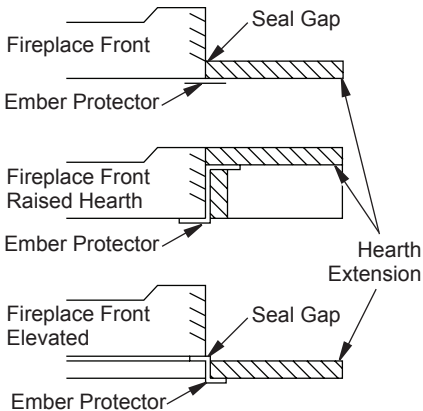

Figure 3 - Hearth Extension
Thermal conductivity "K" of materials can be obtained from the manufacturer or supplier of the noncombustible material. If the hearth extension is to be covered, use noncombustible material such as tile, slate, brick, concrete, metal, glass, marble, stone, etc. Provide a means to prevent the hearth extension from shifting and seal gap between the fireplace frame and hearth extension with a noncombustible material (see Figure 3).
**WARNING: Hearth extension is to be installed only as shown in Figure 3.**